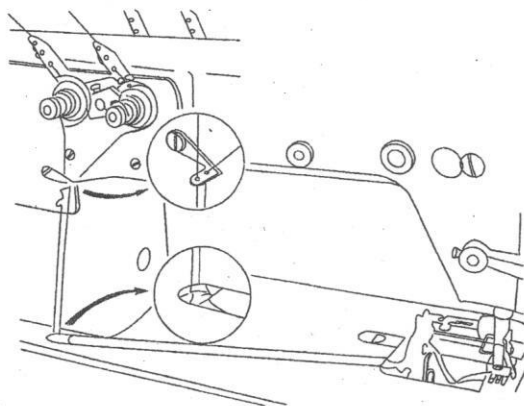
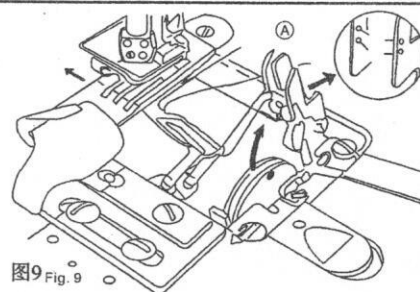

图8 Fig.8
图9 Fig.9
九. 底线的穿法 (图8. 图9) The threading of bobbin thread (Fig.8,9)
1. 按 (图8) 所示穿过夹线器单面导线板, 如用捻度大的线或缝纫时需送料距大的时候应穿二个孔。
2. 把 (图9) 中的扳簧朝操作人员侧拉, A就向上抬起。
To make bobbin thread going through the eye of the needle in the order as shown in (Fig.8 and 9)
- 2) Pull the spring toward the operator, as shown in Fig.9 and part A will rise upwards.
- 3) When threading the looper, the thread shall be made go through the eye of the needle with a tweezer as shown in Fig.9 and 50mm of remaining thread be pulled out.